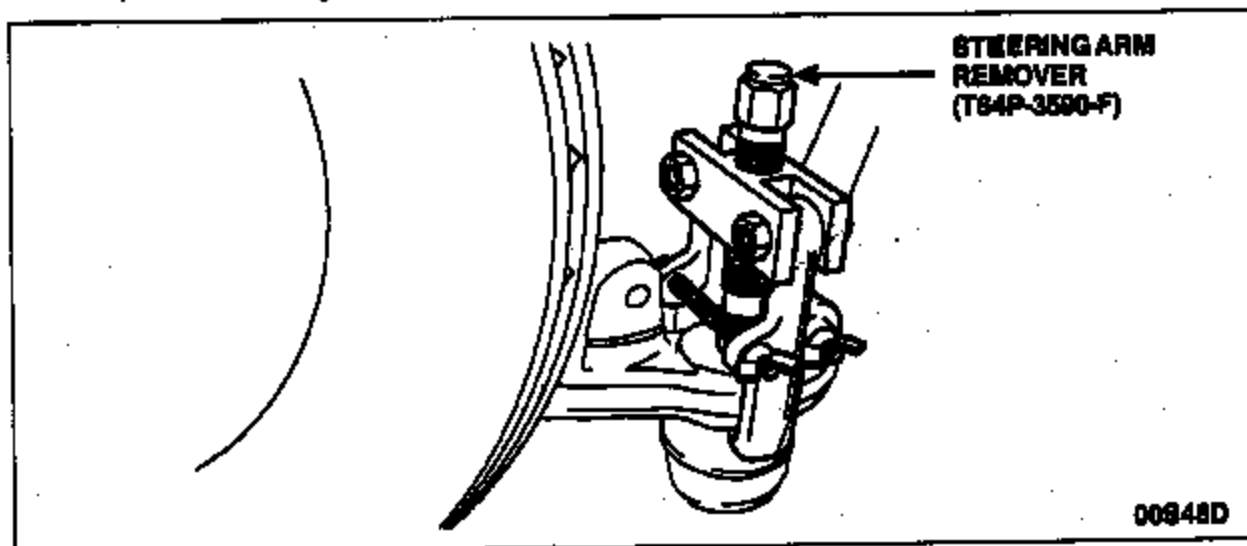

FIGURE 4
5. Separate the tie rod end from the steering knuckle using Steering Arm Remover (T64P-3590-F) or equivalent. See Figure 4.